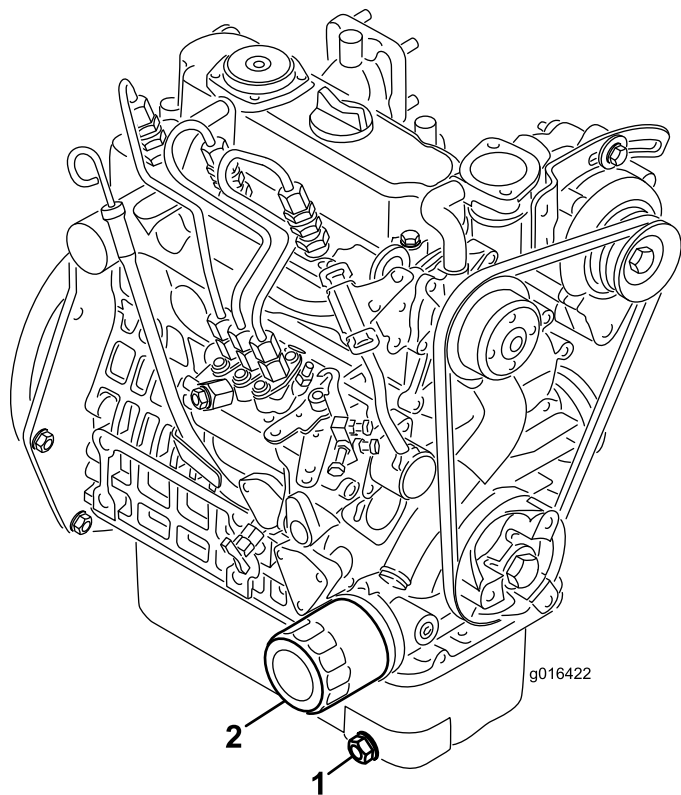

Figure 33
1. Remove the drain plug (Figure 33) and let the oil flow into a drain pan. When the oil stops, install the drain plug.